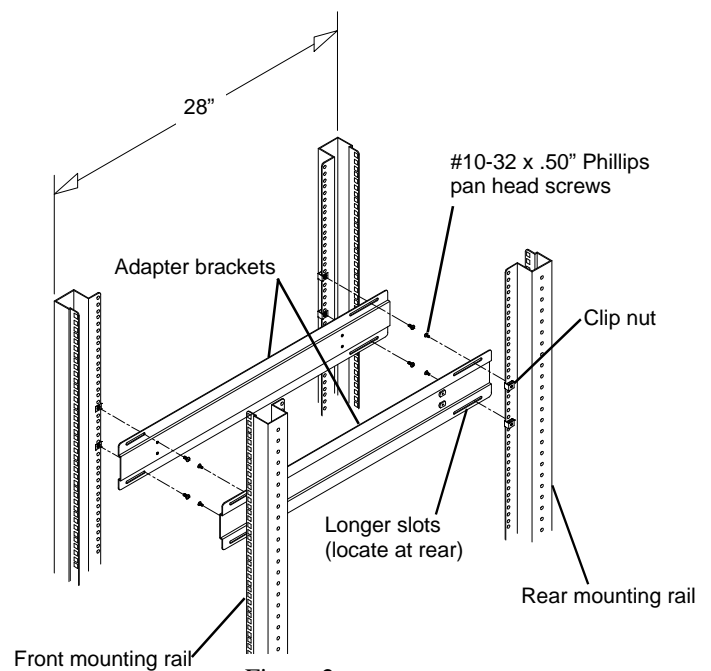

Figure 2
2. Attach the Mounting Brackets to the Clip Nuts with the #10-32 x .50" Phillips pan head screws provided and tighten securely. See **Figure 2**. **IMPORTANT:** On the brackets, the end with the longer slots will be at the rear of the enclosure.